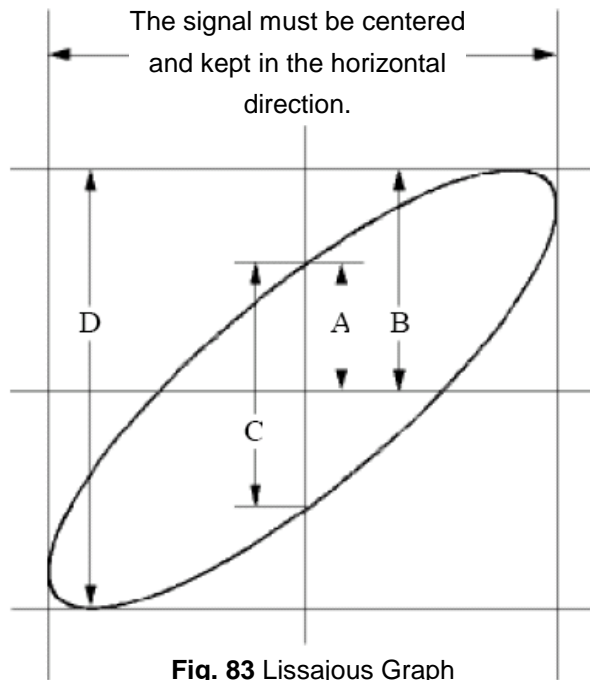

Fig. 83 Lissajous Graph
8. With the elliptical oscillogram method adopted, observe and calculate the phase difference (see **Fig. 83**).